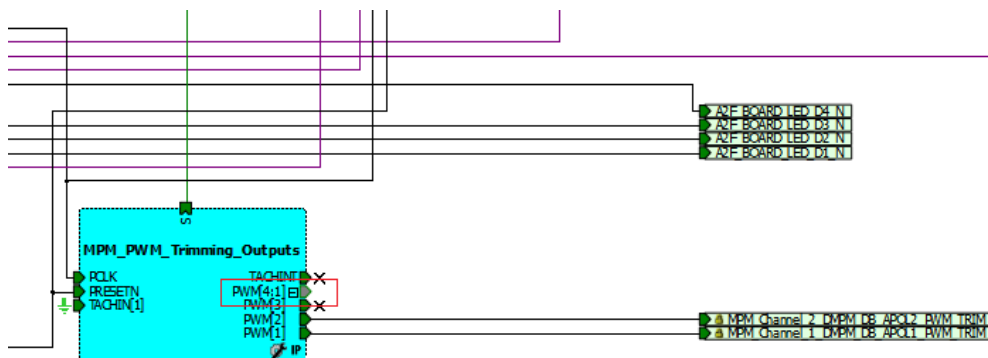
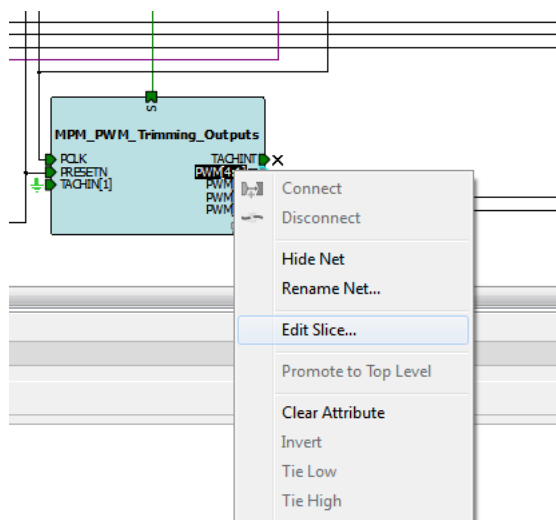

Figure 36 • CorePWM Block After Adding PWM Channel
Figure 37 • PWM Edit Slice
3. The CorePWM (MPM_PWM_Trimming_Outputs) block looks like Figure 36. Right-click the PWM[4:1] as shown in Figure 37 and select Edit Slice.